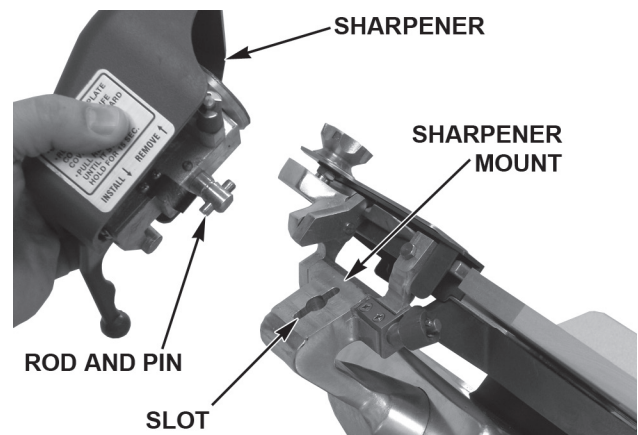

Fig. 25
- Install the Sharpener by lowering it back onto the Sharpener Mount so the Rod and Pin on the bottom of the Sharpener fit the Slot in the Sharpener Mount (Fig. 25).